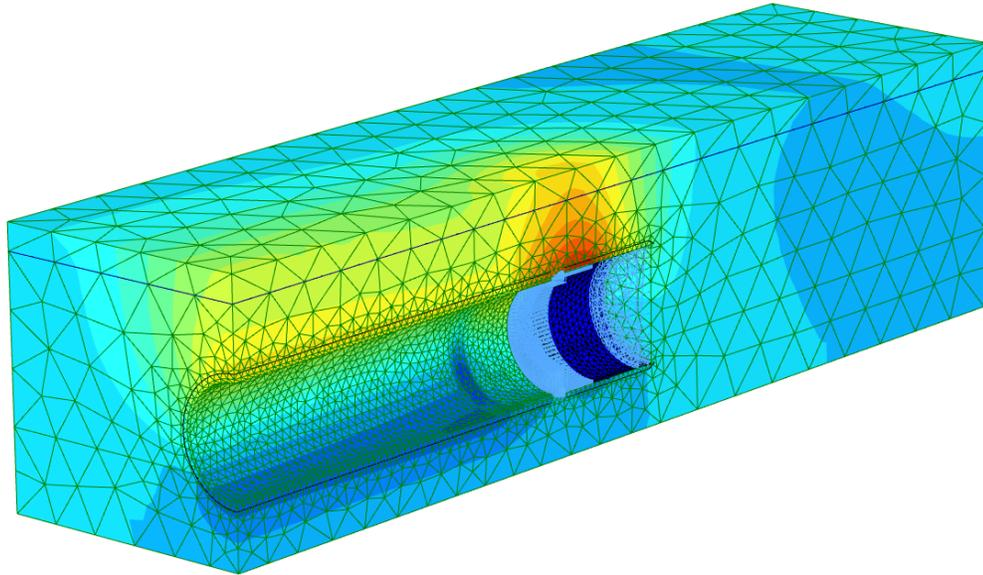

Figure 93: Total vertical displacements after the final phase $u_z \approx 3.1\text{cm}$
3. From the *Deformations* menu, select *Total displacements* and then u_z in order to see the total vertical displacements in the model as a shaded plot (Figure 93 (on page 119))